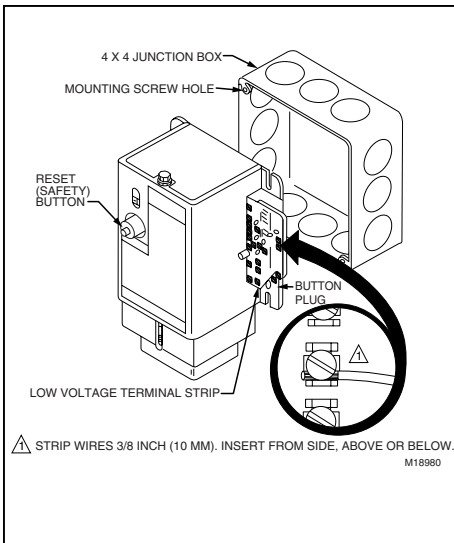

Fig. 2—Mount the R8184M after making line voltage connections.
3. Mount the R8184M to the junction box. Refer to Fig. 2.